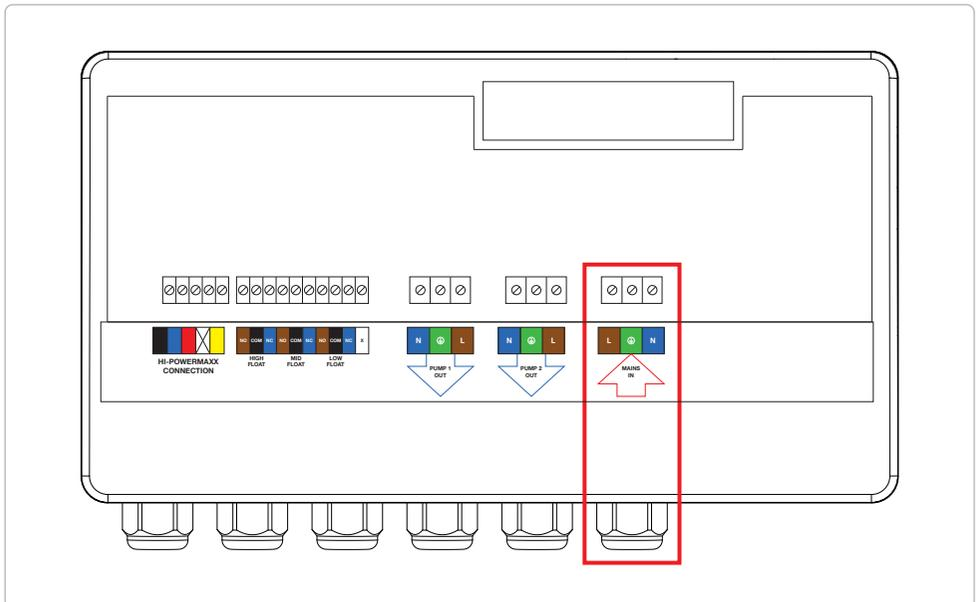

Figure 2. Connecting mains power
2. Using the wiring schematic (figure 1), feed the mains power cable through the cable gland and connect the power cable to the corresponding terminal block on the main PCB (figure 2). Follow the internal sticker for wiring guidance.